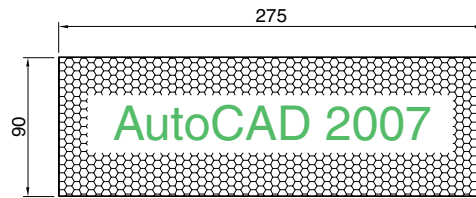

Fig. 8.13 Sixth example – Text in hatching
Sixth example – Text in hatching (Fig. 8.13)
1. Construct a pline rectangle using the sizes given in Fig. 8.13.
The result is shown in Fig. 8.13.